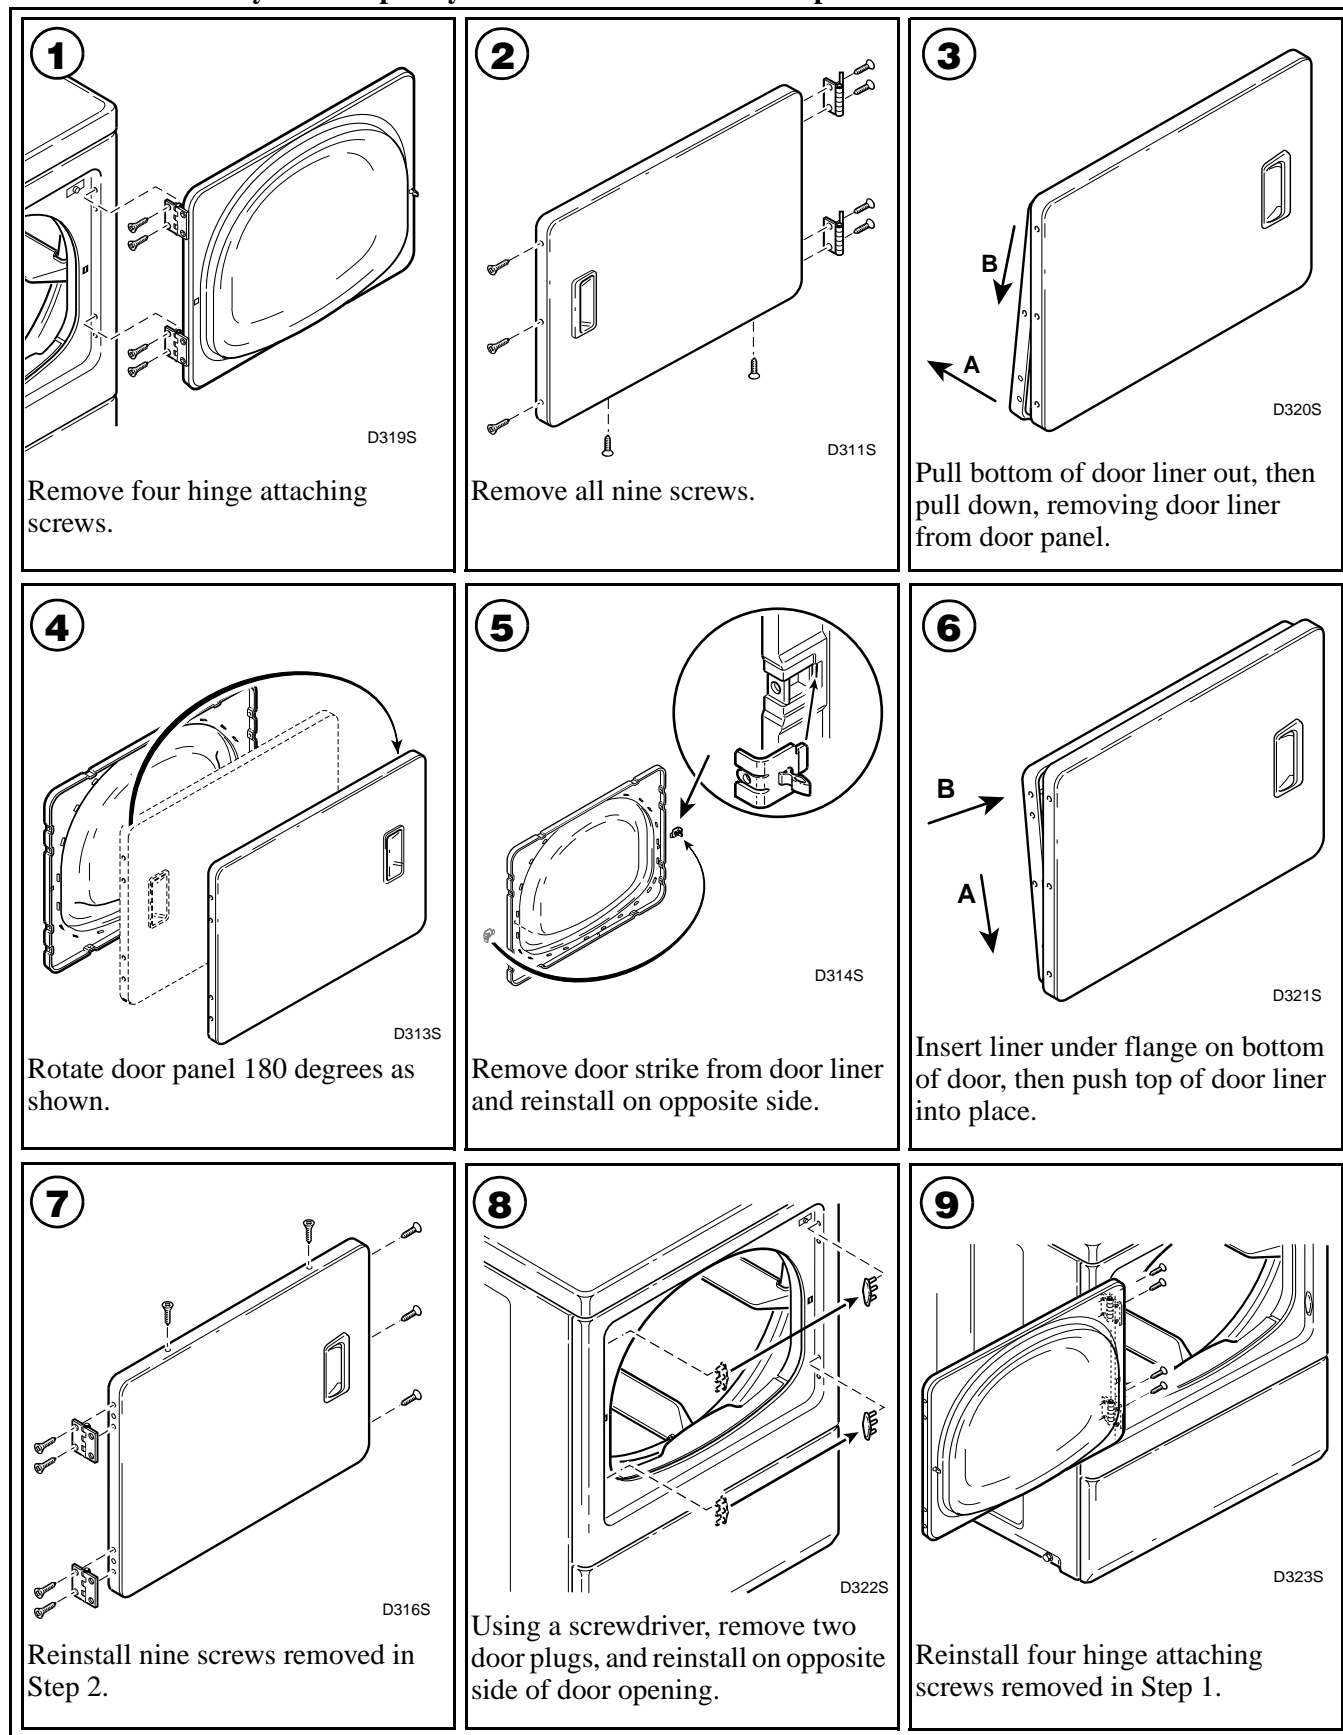

Figure 10
- Remove remaining screws around the door perimeter and separate panels. See Figure 10.